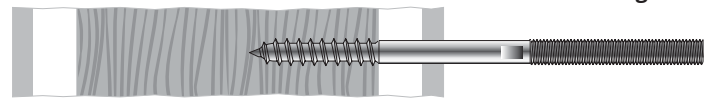

Figure 1
1. Install the the Adjust-A-Body® with Extended Length Hanger Bolt by driving the hanger bolt / lag end into the pre-drilled pilot hole in your end post using a 1/4" open-end wrench. (Figure 1)